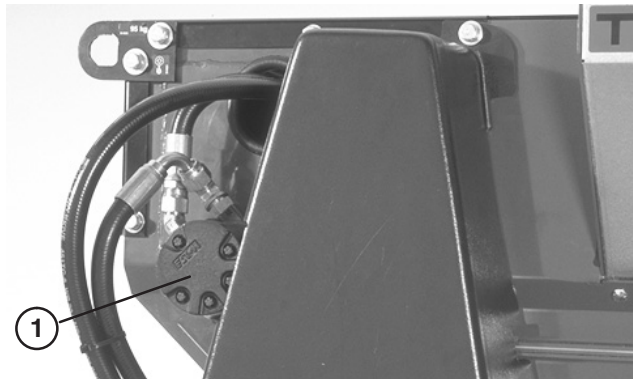

Figure 16
2. Loosen nuts securing brush motor (Fig. 16) to left side of machine.